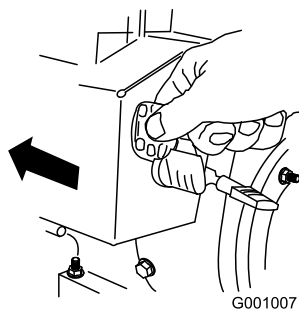

Figure 27
5. Insert the ignition key (Figure 27).